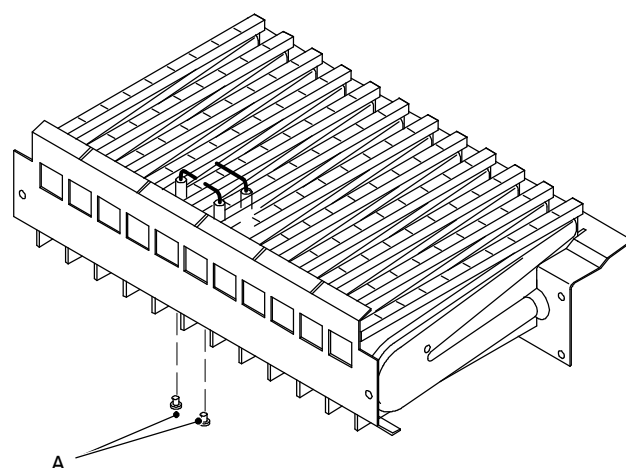

Fig. 77
- 5 Unscrew the screws A (Fig. 77) which hold the electrodes to the burner.